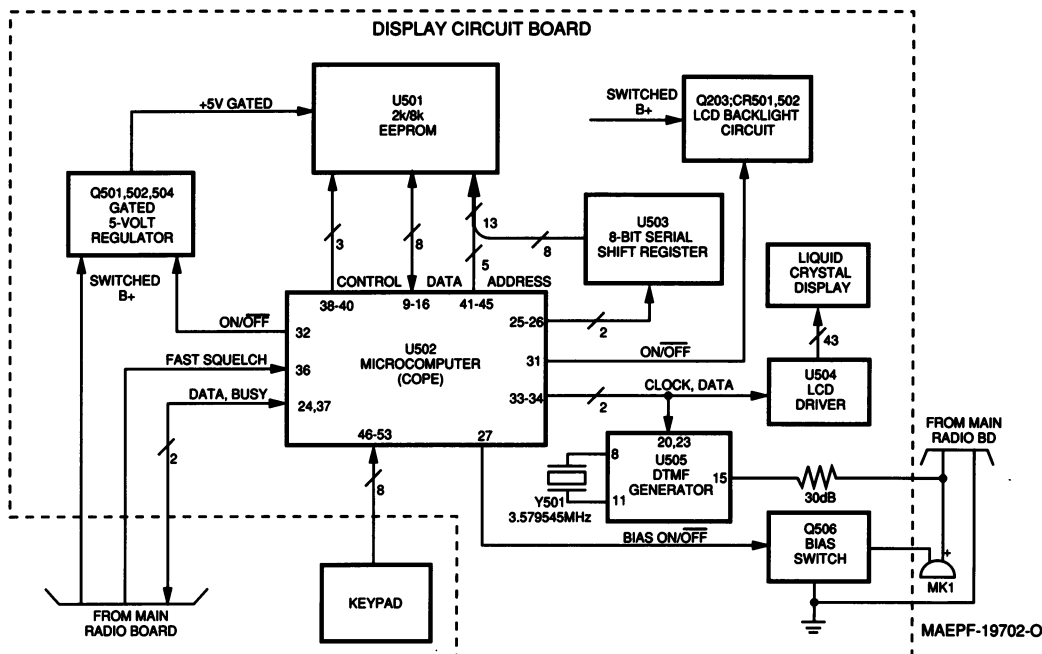

Figure 3. Display Circuitry Block Diagram
*Refer to Figure 3 and the 2k and 8k schematic diagrams in the applicable service manual.*